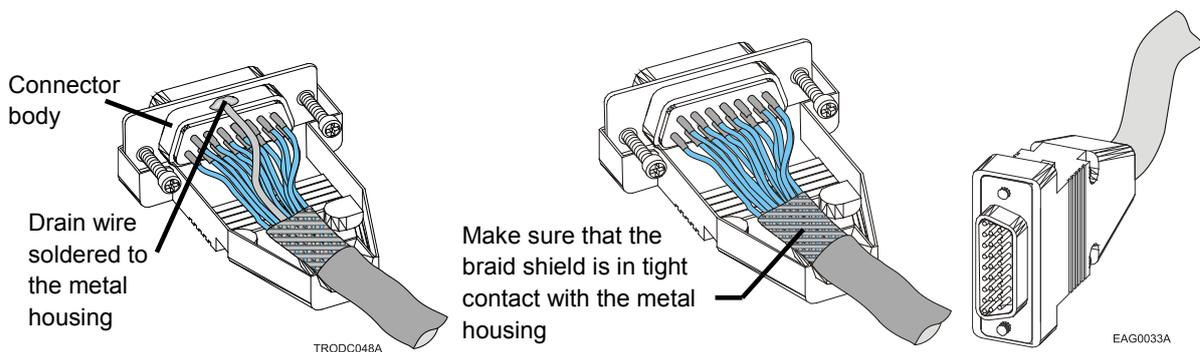

Figure 8: Feedback and Control Cable Assemblies
3. Ideally, solder the drain wire to the connector body as shown in Figure 8. However, the shield may also be attached without soldering, as long as the braid shield is in tight contact with the metal housing of the D-type connector.